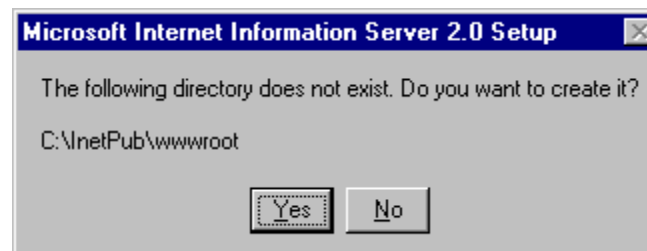

Figure 2.4. Creating the C:\inetpub\wwwroot Directory
- If the default directory does not exist in your computer, a dialog box will appear informing you of this fact, as shown in **Figure 2.4**. If you wish to create the default directory ("C:\inetpub\wwwroot"), click **Yes**.